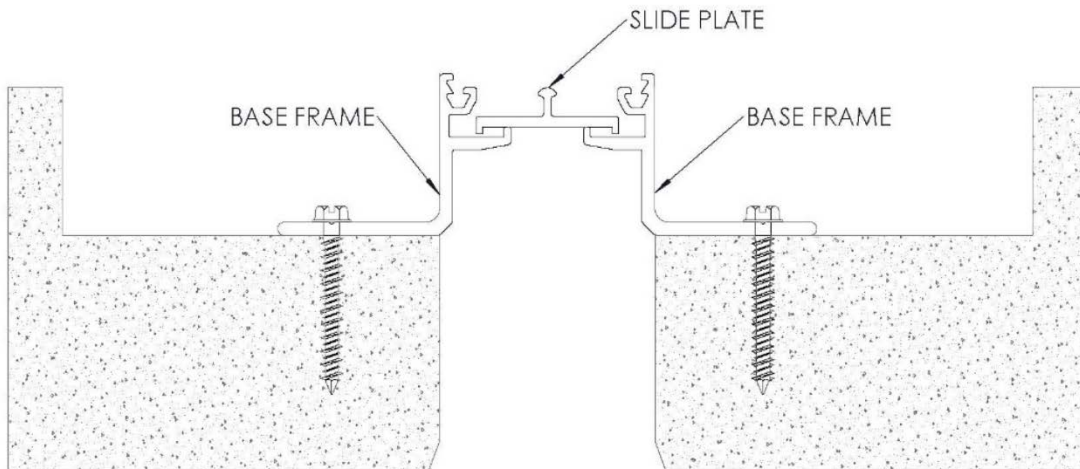

FIGURE 3
3. Place slide plate (not required on 1” joint sizes) in the lower channels of the base frames with the bent ends of the plate pointing downwards. **See Figure 3**